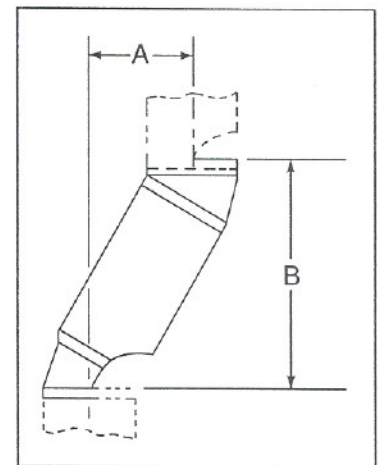

Figure 7
To clear any overhead obstructions, the chimney may be offset using a 15° or 30° Offset/Return, Catalog Number SL315, SL330, OR815 or OR830. Figure 7 and Tables 1 or 2 (page 8) enable selection of the appropriate chimney components when using Offsets and Returns.
1. Determine amount of offset required to extend the chimney through a wall or around an obstacle. See Figure 7, dimension "A".